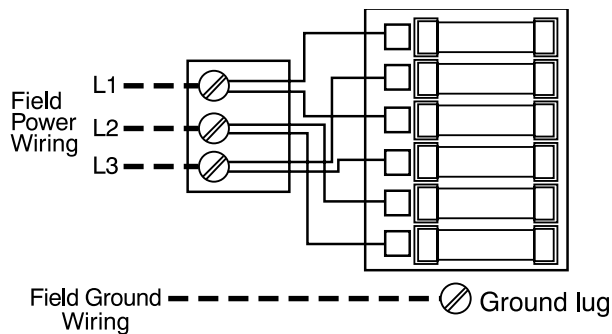
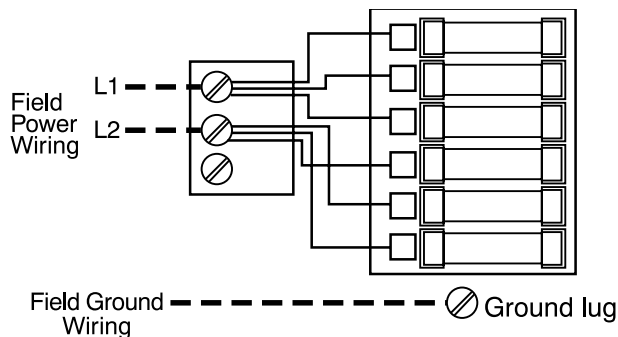
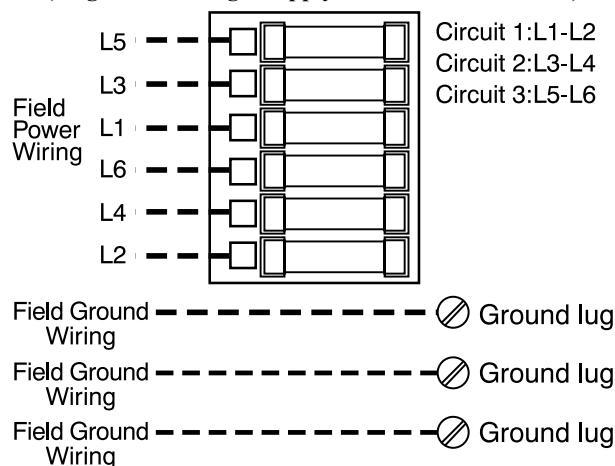

Fig. 13 – 24 and 30 kW Heaters (3-Phase Wiring Factory Supplied)
Fig. 14 – 24 and 30 kW Heaters
Fig. 15 – 24 and 30 kW Heaters
3. Fused heaters: See Fig. 9, Fig. 13, Fig. 14, and Fig. 15.